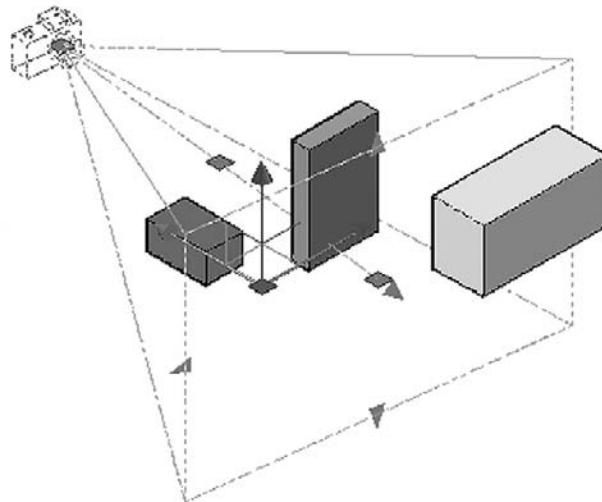

FIGURE 29.11
Step 3. Position the camera in a location that is some distance away from the objects and at a good angle to view the blocks. As soon as you click to position the camera, you see the “target view cone” shown in Figure 29.11. This is the camera’s field of view.